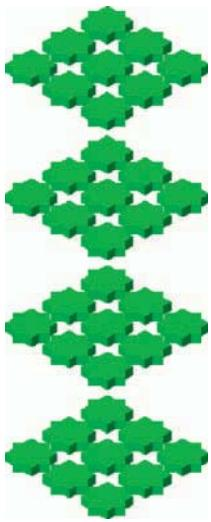

Fig. 14.12 First example – a 3D Rectangular Array
First example – a Rectangular Array (Fig. 14.12)
4. Shade using the **Home/View/Conceptual** visual style (Fig. 14.12).